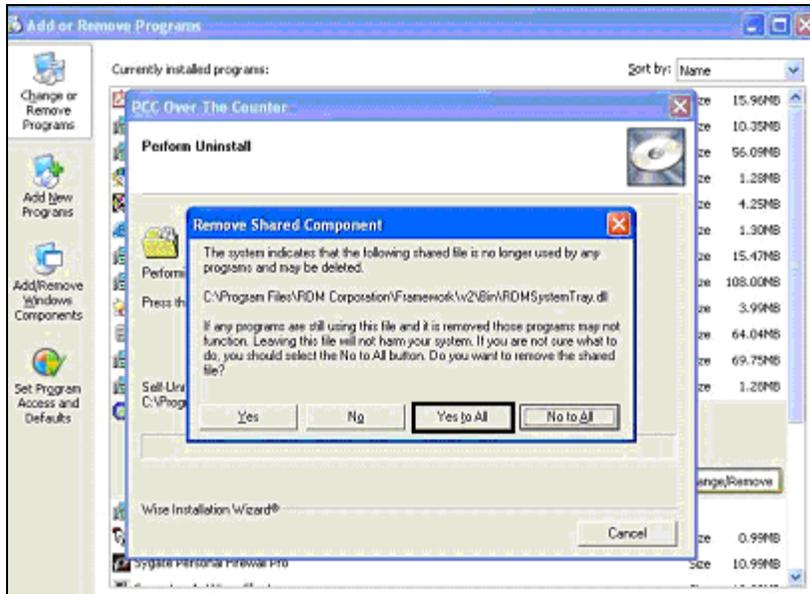

Figure 2.16
4. The uninstall process begins. This may take up to 5 minutes. A prompt may appear asking if you wish to remove a shared component. The uninstall process will notify the user that the file is no longer being used by other programs and may be deleted. Click on **‘Yes to All’**. (Figure 2.16)